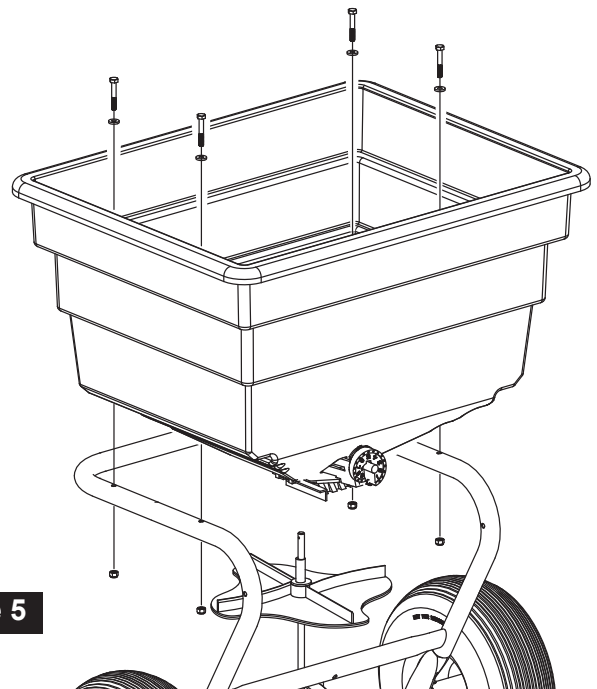

Figure 5
IMPORTANT! Note orientation of rate dial. Be sure to slide spinner shaft into hopper, Figure 5.
8. Insert 1/4" Nylon Washer onto 1/4-20 x 1-3/4" Bolt. Insert through hopper and frame. Attach finger tight only with 1/4" Nylon Insert Locknut, Figure 5. Repeat for remaining 3 bolts, washers, and nuts.